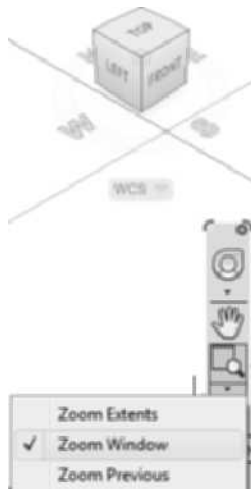

FIGURE 2.14 Zoom window of the Navigation bar
6. Select **Zoom Window** from the Zoom flyout of the **Navigation** bar as shown in Figure 2.14. Respond as follows to the following workspace prompts: